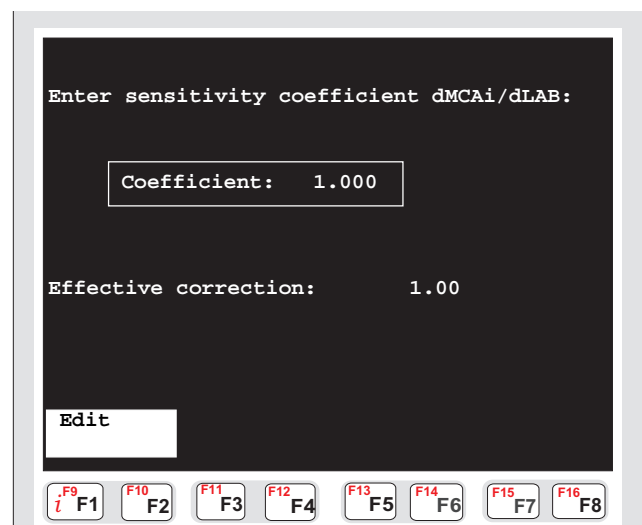

Fig. 9.16. “Enter sensitivity coefficient” display.
4. Go from MAIN MENU => SELFDIAGNOSTICS=> SPECIAL FUNCTIONS => press number key 0 => SENSITIVITY COEFFICIENT (Fig. 9.16). This function is hidden as it is mainly needed in applications outside the pulp & paper industry.